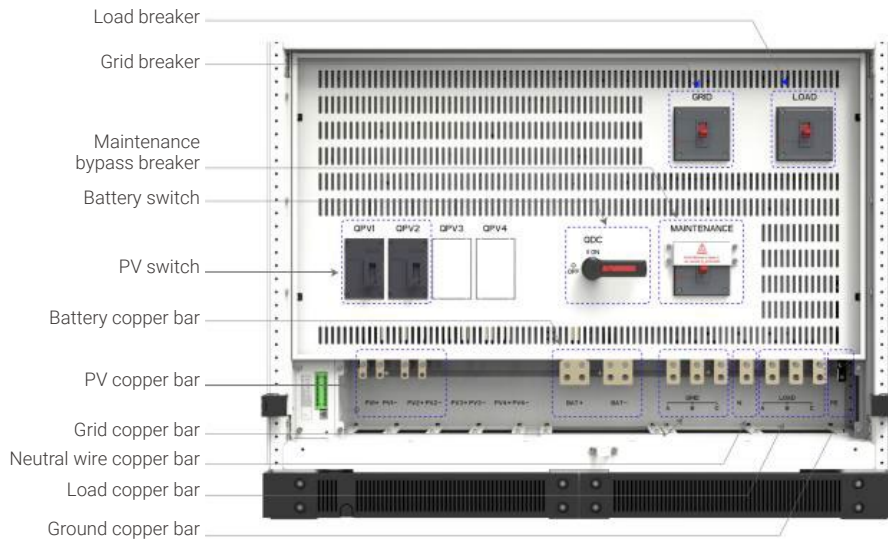

Figure 28: HPS250 Example
2. Close the photovoltaic input switches QPV1 and QPV2 (refer to Figure 28).
5. Confirm the photovoltaic input and close the photovoltaic input switches "QPV1" and "QPV2" in Figure 28. After closing the PV input switch, if the monitor screen was black before, the monitor screen will start running at this time (when photovoltaic power is transmitted, each photovoltaic channel must be measured to prevent short circuits).